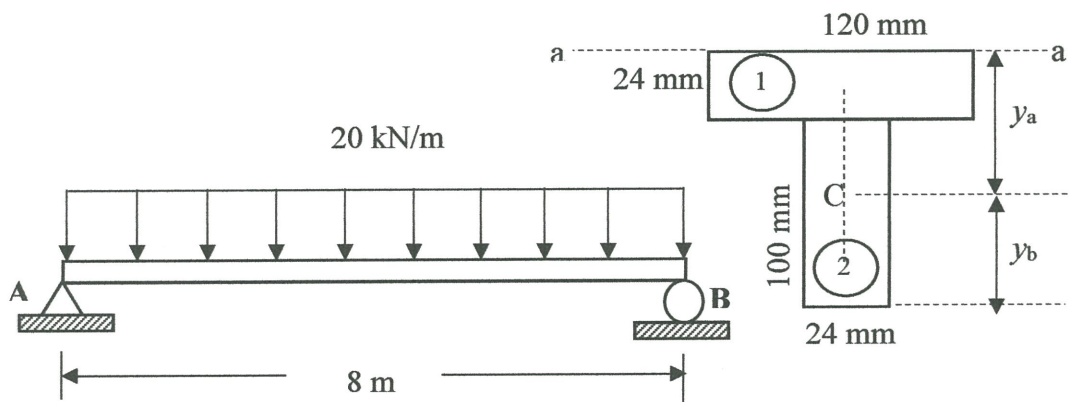

FIGURE Q6
- (b) A simply supported beam AB in **Figure Q6** has the cross sectional area shown beside of the supported beam figure A distributed load of 20 kN/m is acting on the beam.